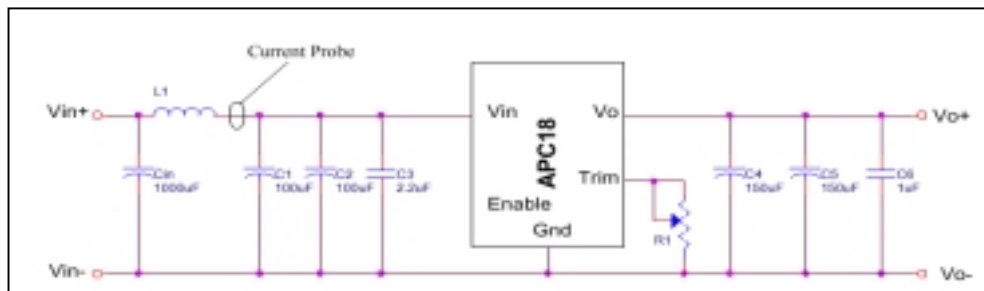

Figure 1. Input Reflected-ripple Test Set-up
2. External input capacitance required. See Figure 1.